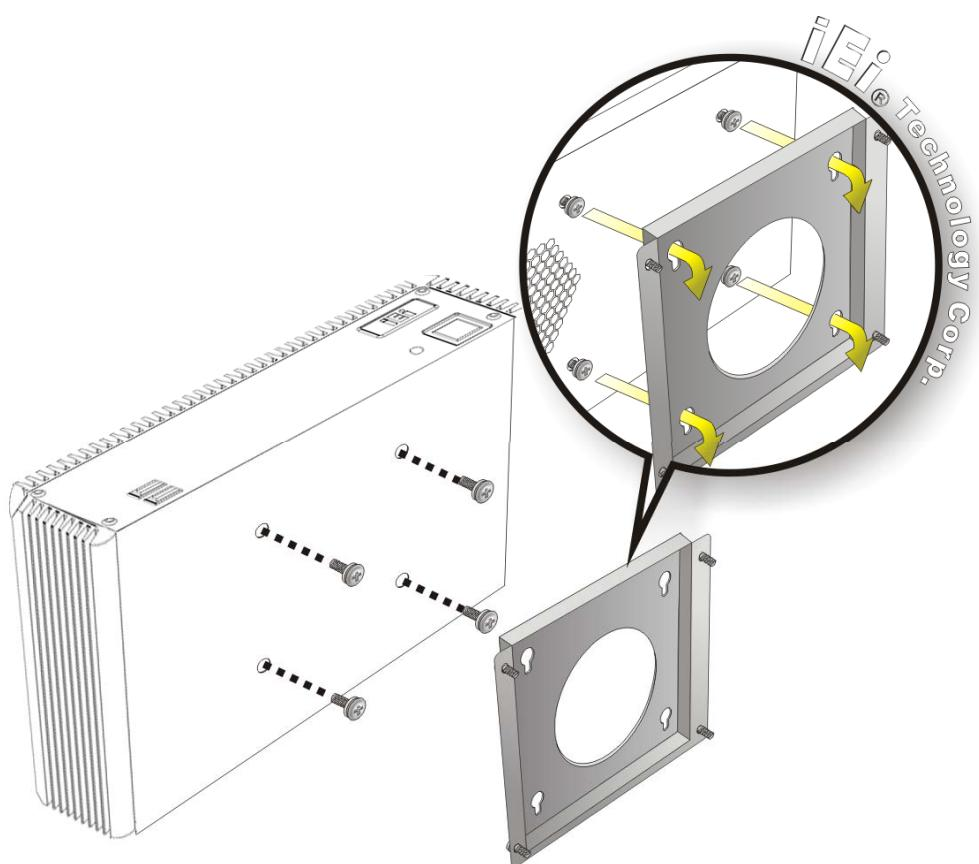

Figure 4-8: Mount the Embedded System
Step 6: Insert the four monitor mounting screws provided in the wall mounting kit into the four screw holes on the bottom panel of the system and tighten until the screw shank is secured against the bottom panel (**Figure 4-8**).
Step 2: Carefully insert the screws through the holes and gently pull the monitor downwards until the ECW-281B-945GSE rests securely in the slotted holes (**Figure 4-8**). Ensure that all four of the mounting screws fit snuggly into their respective slotted holes.